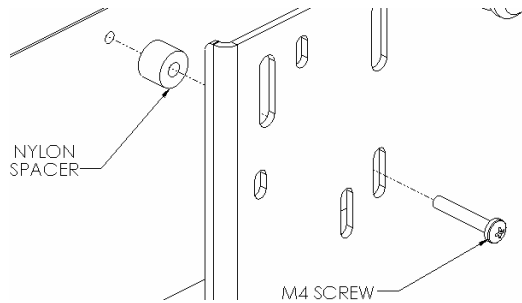
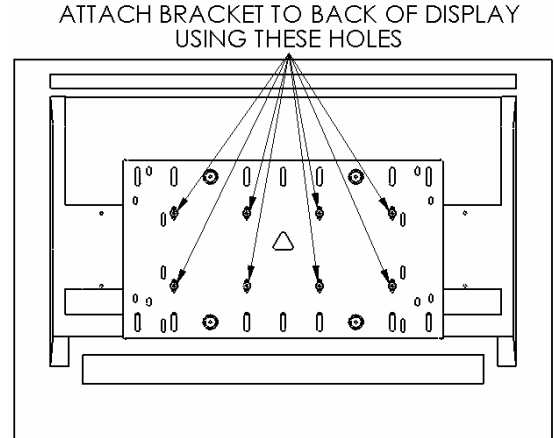

Figure 4
Figure 5
2. **Bracket Installation:** Attach bracket to back of display using the M4 screws, Nylon spacers and flat washers (see Figure 4 & Figure 5). The vertical slots of bracket can be used for any height adjustment that may be needed. Do not over tighten screws.